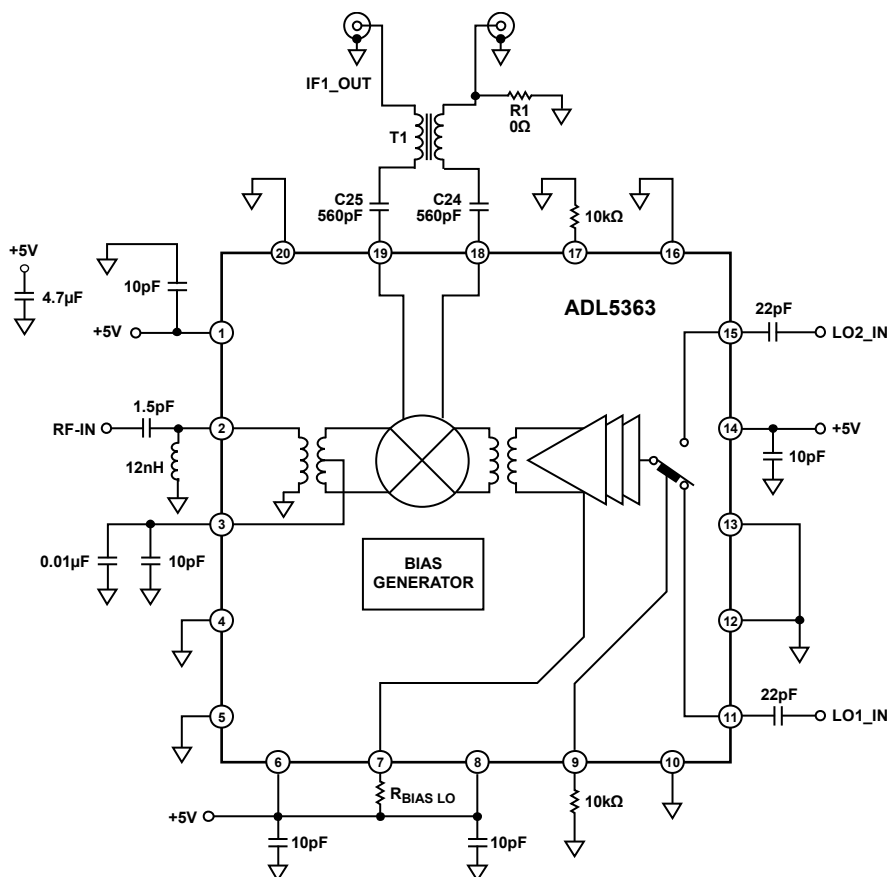

Figure 9. Typical Application Circuit
The ADL5363 mixer is designed to up- or downconvert between radio frequencies (RF) from 2300 MHz to 2900 MHz and intermediate frequencies (IF) from dc to 450 MHz. Figure 9 depicts the basic connections of the mixer. It is recommended to ac-couple RF and LO input ports to prevent non-zero dc voltages from damaging the RF balun or LO input circuit. The RFIN capacitor value of 3 pF is recommended to provide the optimized RF input return loss for the desired frequency band.